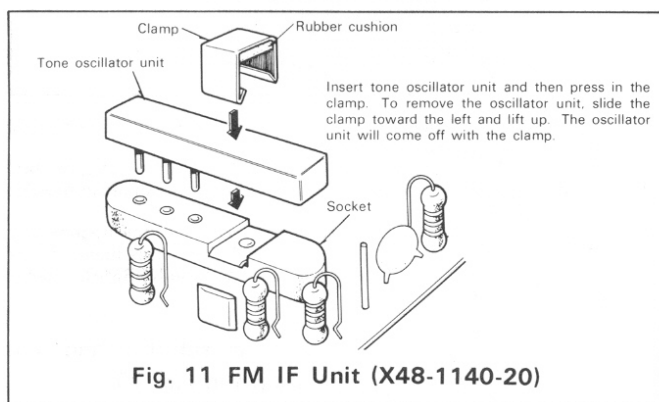

Fig. 11 FM IF Unit (X48-1140-20)
Example: If your repeater uses an input frequency of 146.34 MHz (FM) an output frequency of 146.94 MHz (FM) and an 1800 Hz tone burst start, first insert an 1800 Hz tone oscillator element into the FM IF unit at the underside of the chassis (see Fig. 11).